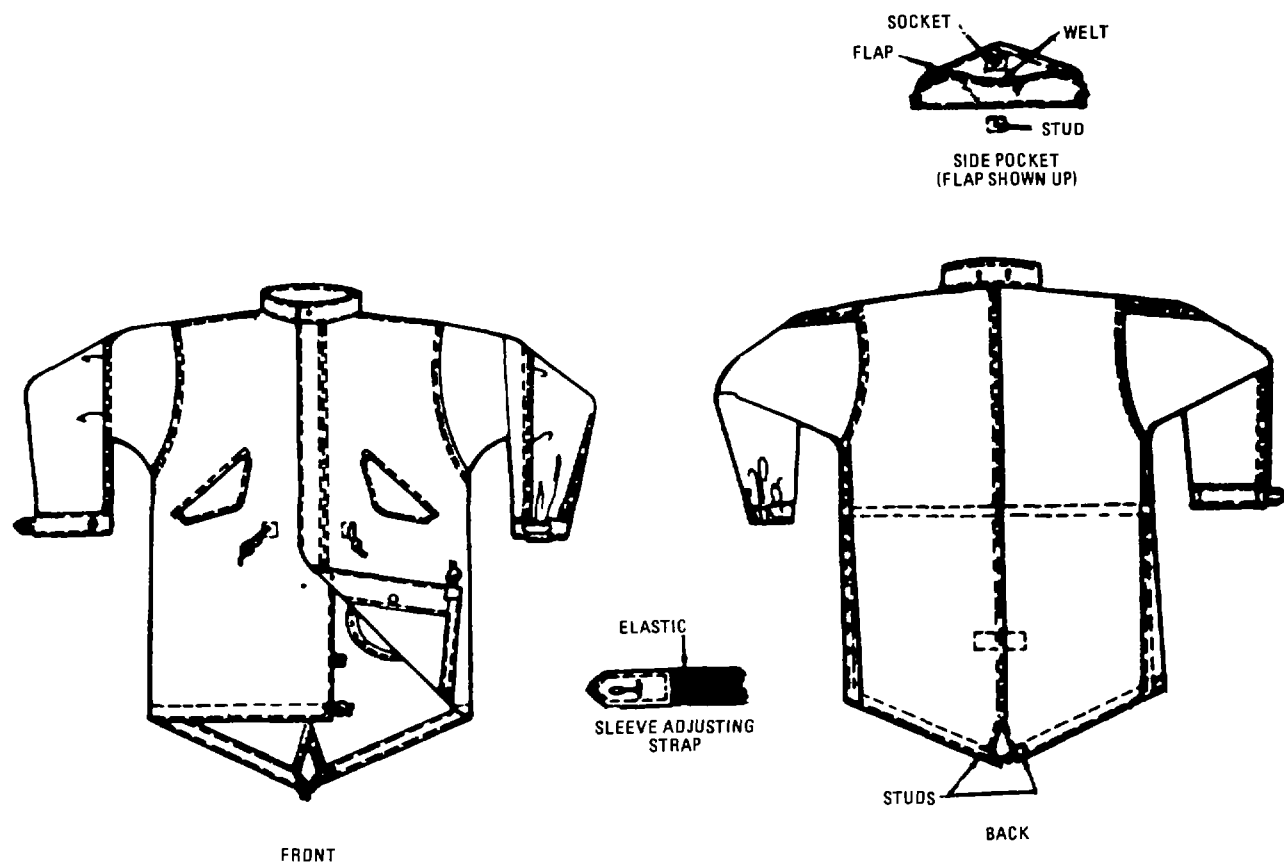

Figure 10-3. Extreme cold weather parka
- c. Parka, Extreme Cold Weather, w/out hood, cotton and nylon, Army shade 107, MIL-P-43496 (NSN's 8415-00-782-3216 through 3220). The olive green extreme cold weather parka is a single breasted outer garment made of water repellent cotton and nylon oxford cloth. It is slide fastener closed, and the sleeves have adjustable cuffs. There are two slit-type breast pockets with snap fastener closures. Waist and hem drawcords are provided Inside buttons and button tabs are provided for attaching the parka liner Buttonholes on the collar are provided for attaching the fur hood. (See figure 10-3.)